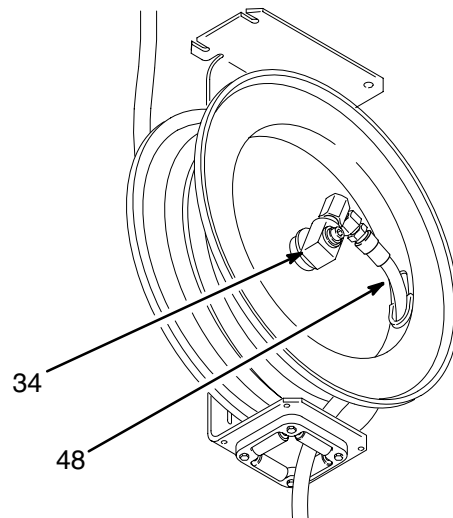

Fig. 13
5. Attach the hose (48) to the hose reel swivel (34), and carefully remove the C-clamp. See Fig. 13.